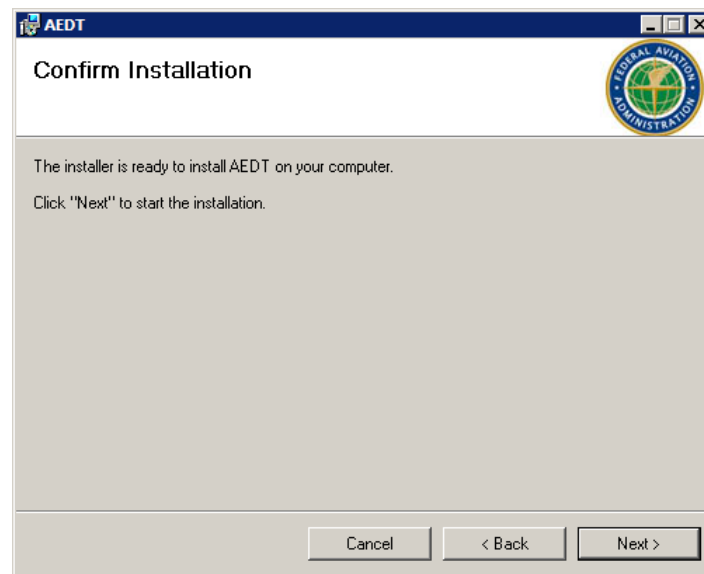

Figure 2-23 AEDT Setup Wizard – Confirm Installation
8. Click *Next* to start the installation (Figure 2-23).